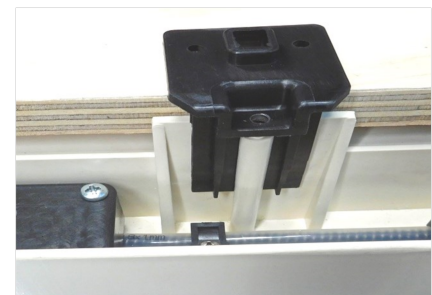

Figure 3
5. With the hatch sitting in the hole, test fit the black mounting clamps (all 11 of them) all the way around to ensure that they are the correct length to draw up tight against the roof. These clamps are designed to be trimmed if needed to accommodate a wide range of roof thicknesses. Your hatch will fit into roofs up to 3 5/16" (84mm) thick. If your roof is over 2 3/4" (70mm), optional expansion rings (trim pieces) are available to cover the gap between the inner and outer frames. If trimming is required on the clips, use a hacksaw to carefully cut them. Some of the clamps may need to be shorter than others. The clamps should be slightly shorter than the span they will be drawing up. *See Figure 3*.